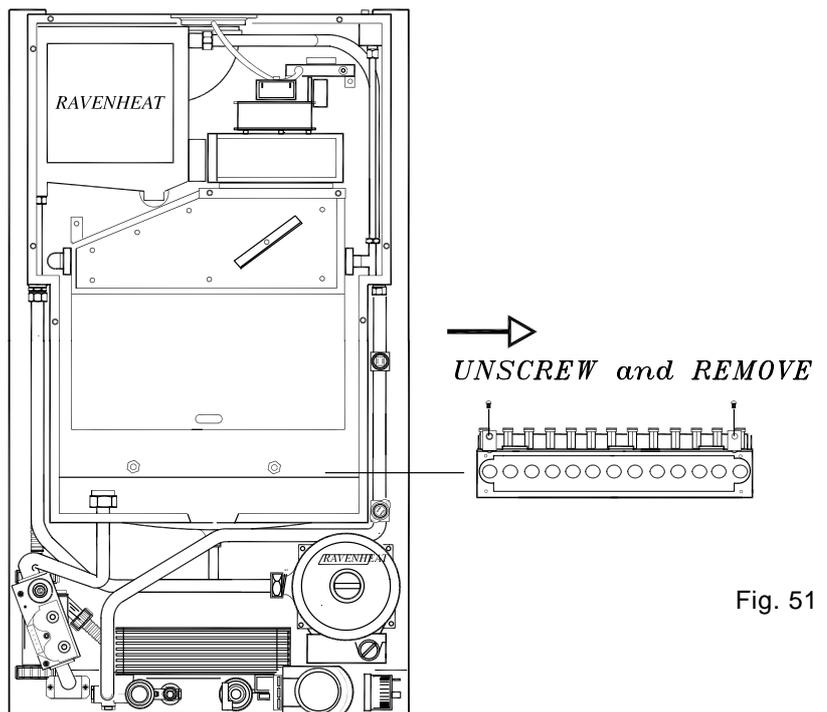

Fig. 51
- 7.9.5 Remove main burner (fig. 51). Remove top insulation pieces at sides. Remove 2 screws securing combustion chamber to rear of boiler. Lower chamber carefully remove all insulation panels.